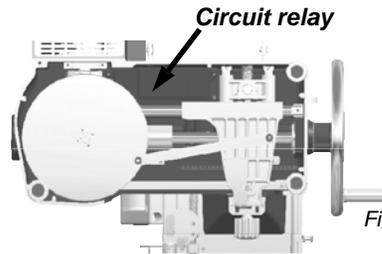

Fig.30
- Relay in the control circuit which requires the machine to be restarted in the event of an accidental power failure (Fig.30).
TAB.1 OVERALL DIMENSIONS AND TECHNICAL FEATURES (Fig. 30)